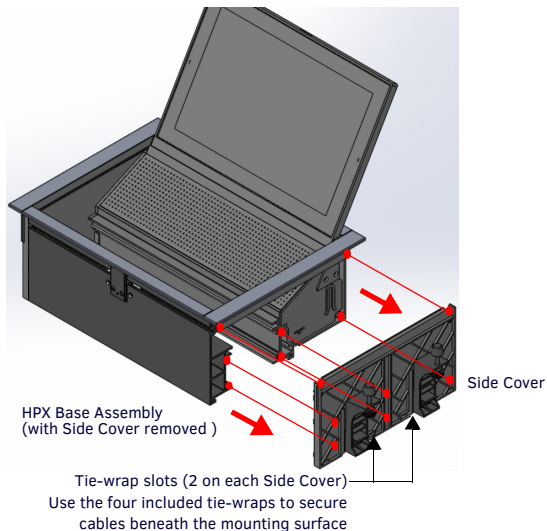

FIG. 1 REMOVING THE SIDE COVER
1. Remove the 7 Philips-head Mounting Screws that secure the Side Cover to the HPX base assembly (FIG. 1):
2. Gently lift one end of the Side Cover to free it from the enclosure, then carefully pull the opposite side to remove it. Note that with the Side Cover removed, the mounting rails (inside the enclosure) are accessible (see FIG. 1).
- Note:** Use the tie-wrap slots provided on the lower edge of each of the Side Covers (see FIG. 1) to secure cabling to the HPX and modules, via the four included tie-wraps.